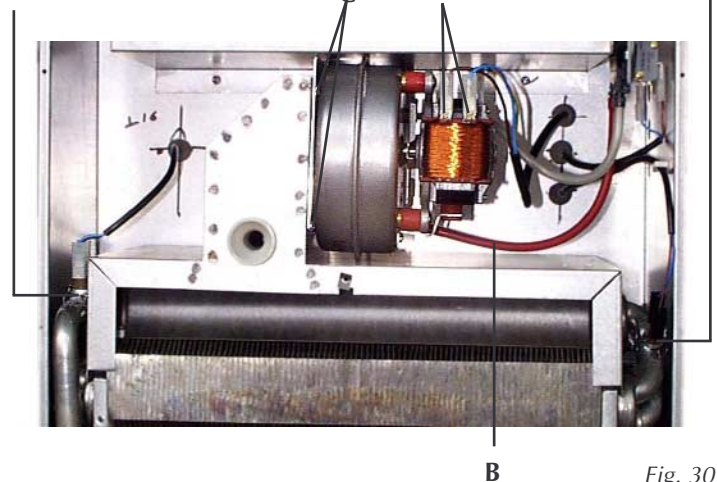

Fig. 30
7.12 Removal of fan (fig. 30)
7.13 Limit thermostat, or overhear cut off thermostat (fig. 30)
- Identify the location of thermostat from fig. 30